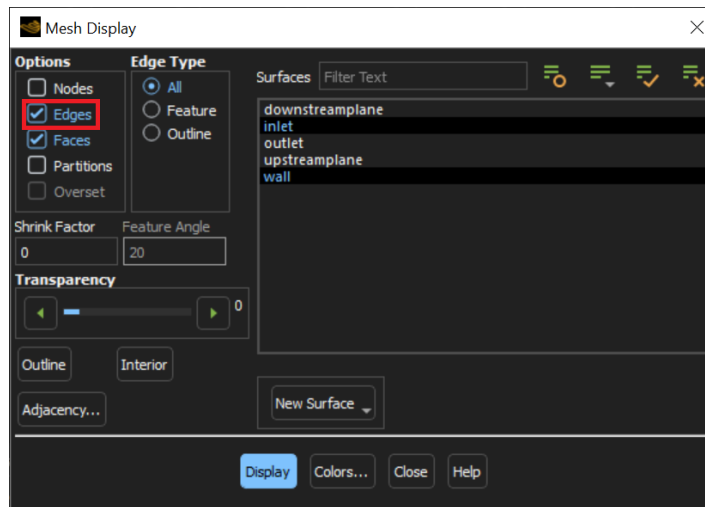
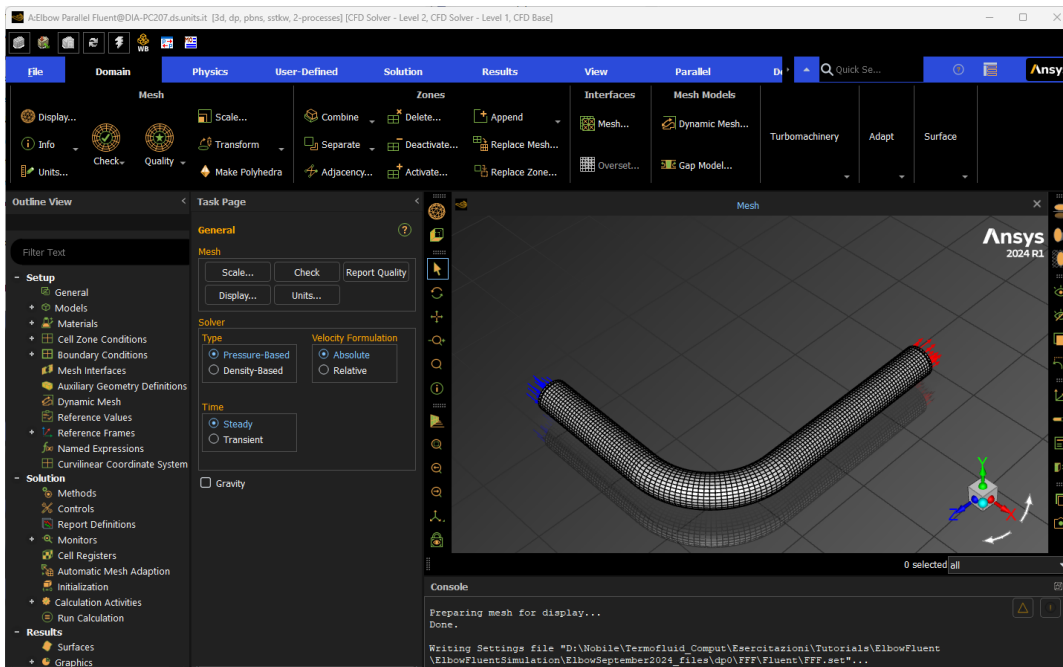

Figure 38: Set Fluent mesh display options.
Figure 39: Fluent mesh shown in graphics window
- In order to display the mesh lines in the graphic window, there are two options: you either click the *Display* button located in the *Mesh* tab of the ribbon ( *Display...*), or the analogous button located in the toolbar of the graphics window. In both cases, a window like in figure 38 will show up, and it will be necessary to tickmark the *Edges* checkbox. The result will be as shown in figure 39.